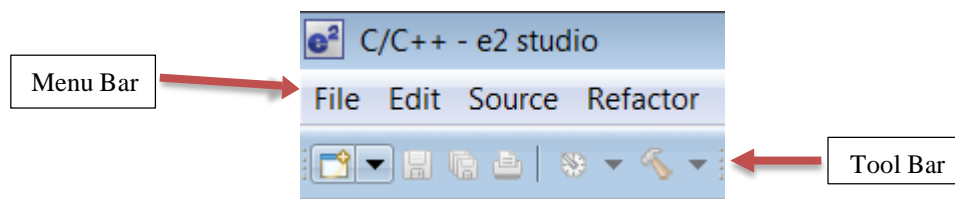

Figure 2.5 Menu and tool bar
3. You are now in the workspace that you want to import the project into. Click the **File** menu in the menu bar, as shown in Figure 2.5.